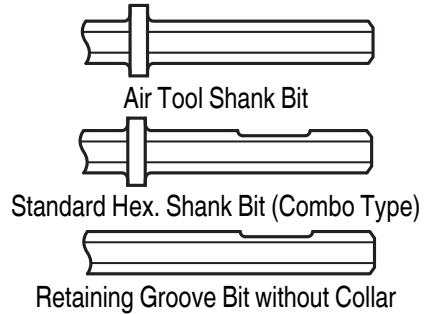

Fig. 3
* It is possible to attach accessories such as bull points, cutters, etc., with any of the three types of shank bit shapes shown below. (Fig. 3)
4. Inspecting the retainer (**Fig. 3 and 4**)